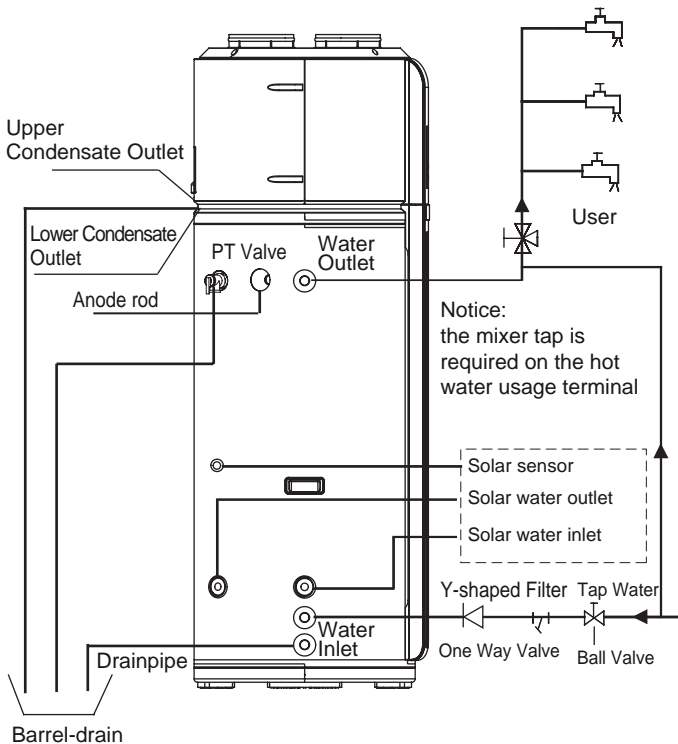

Fig. 5-1
- Arrange water pipes and connected fittings as it is shown in Fig. 5-1. In case of installation in a place where outside temperature is below freezing point, insulation must be provided for all hydraulic components.